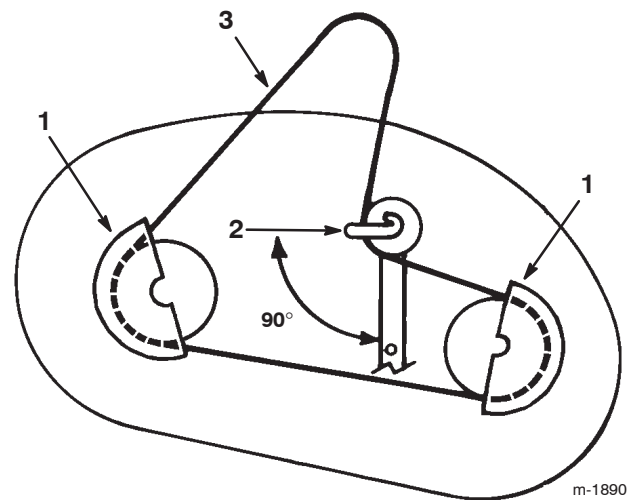

Figure 45
2. Remove the pulley cover mounting screws and pulley covers from both blade pulleys (Fig. 45).
3. Loosen, but do not remove, the bolt and nut securing the idler pulley and belt guide (Fig. 45).
2. Position the idler pulley belt guide so it points toward the left, 90° to the idler arm (Fig. 45). Tighten the mounting bolt and lock nut securing the idler pulley and belt guide.
3. Install the left and right pulley covers with the mounting screws (Fig. 45).